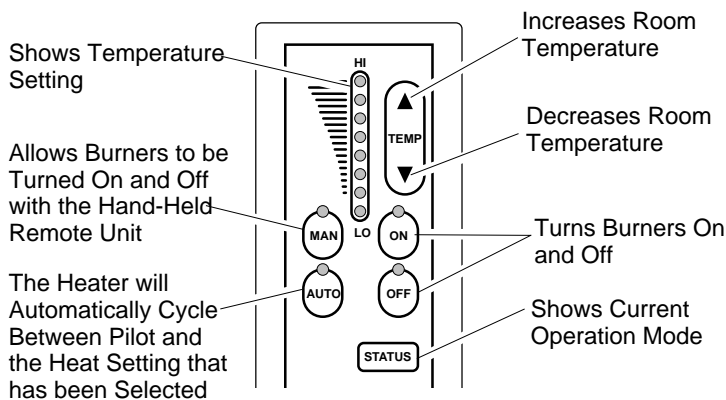

Figure 51 - Hand-Held Thermostat Remote Control Unit Selections (GHRCT Only)
- Select the MAN (manual) or AUTO button on the hand-held remote control unit (see Figure 51).